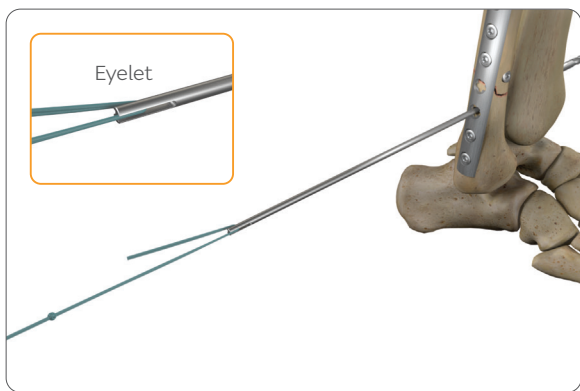

Figure 3. Passing the suture assembly into the eyelet of the 3.5mm passing pin
4. Insert the passing suture through the eyelet on the 3.5mm drill-tip passing pin (**Figure 3**). Advance the drill-tip passing pin through the fibula and the tibia, and retrieve the passing suture on the medial side of the tibia.